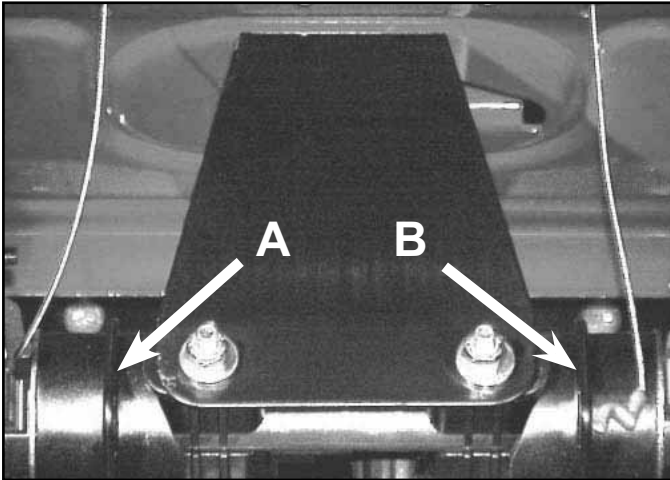

Fig 165 MVC-2200X.jpg
17. Install wheel clutch assembly with the brace shift plate facing away and up towards housing making sure collars are correctly installed with the "RIGHT" and "LEFT" facing inward and the right and left flanges are facing you (Fig. 165).